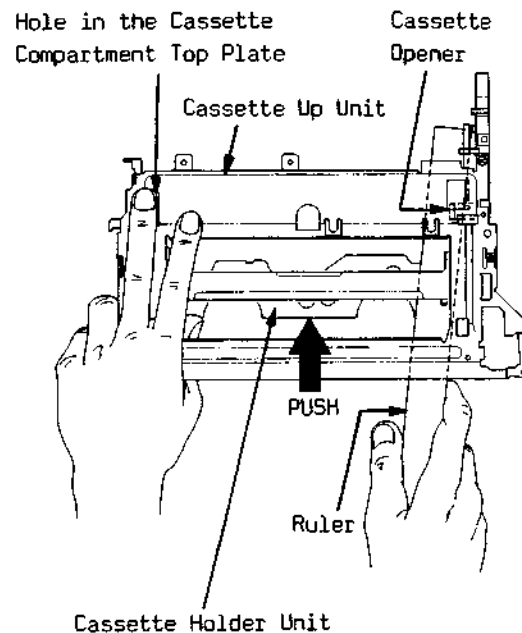

Fig. 1-4
- First insert a ruler against the bottom right side of the cassette up unit so it lies over the cassette opener to keep it in the down condition as shown in Fig. 1-4.
- With the ruler in place, extend the left middle finger outside the cassette up unit to cover the hole in the cassette compartment top plate as shown in Fig. 1-4, while pressing the cassette holder unit into the loading condition with the left thumb.
- Hold the ruler and middle finger firmly in position until the cassette holder unit clears the locking tab of the side plate (L) and passes beyond the cassette reject slot of the side plate (R). After clearing the locking tab and the cassette reject slot, the cassette holder unit will move into the down position by itself.